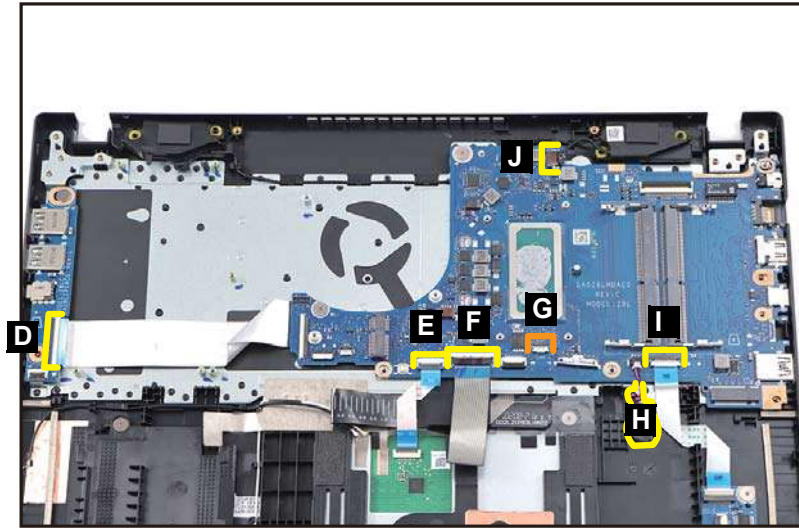

Figure 3-97. Replacing the Mainboard
4. Connect the DB FFC to the IO board connector (D) (Figure 3-97).
5. Connect the touchpad FFC to the mainboard connector (E) (Figure 3-97).
6. Connect the keyboard FPC to the mainboard connector (F) (Figure 3-97).
7. Connect the keyboard backlight FPC to the mainboard connector (G) (Figure 3-97) (optional).
8. Install the RTC battery (H) onto its slot on the top assembly (Figure 3-97).
9. Connect the card reader board FFC to the mainboard connector (I) (Figure 3-97).
10. Connect the speaker cable to the mainboard connector (J) (Figure 3-97).